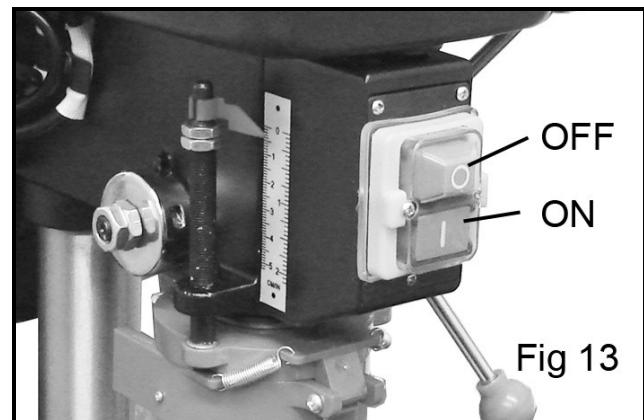

Fig 13
- Push the 'O' button to switch off. See Fig 13.